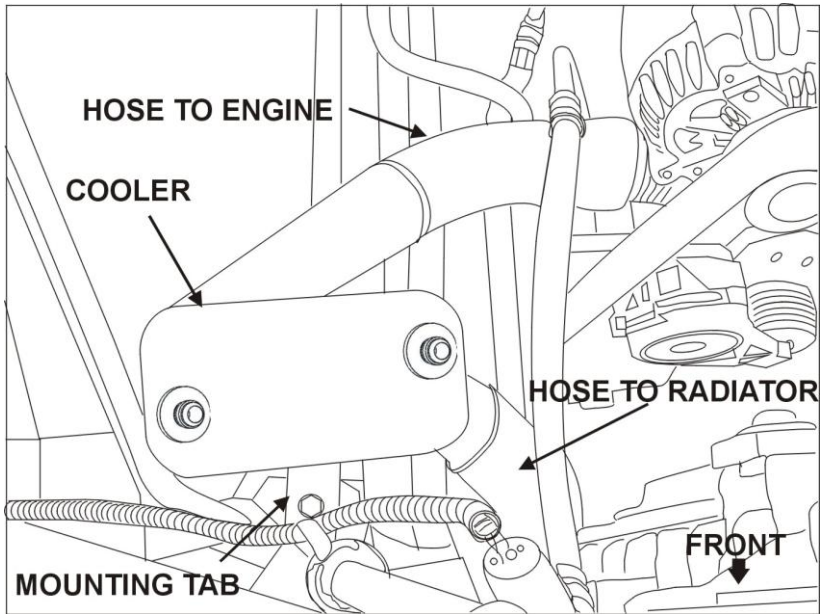

Figure 3.2
- ☐ Install cooler in engine bay on the passenger side beside engine. Tab on cooler will be bolted to the top of the body lift tab above passenger side frame. The cooler tab faces forward with oil ports facing up (Figure 3.2).
- ☐ Attach short elbow from OEM hose to the radiator and front spigot of cooler. Attach long section from OEM hose to engine and rear spigot of cooler (Figure 3.2).